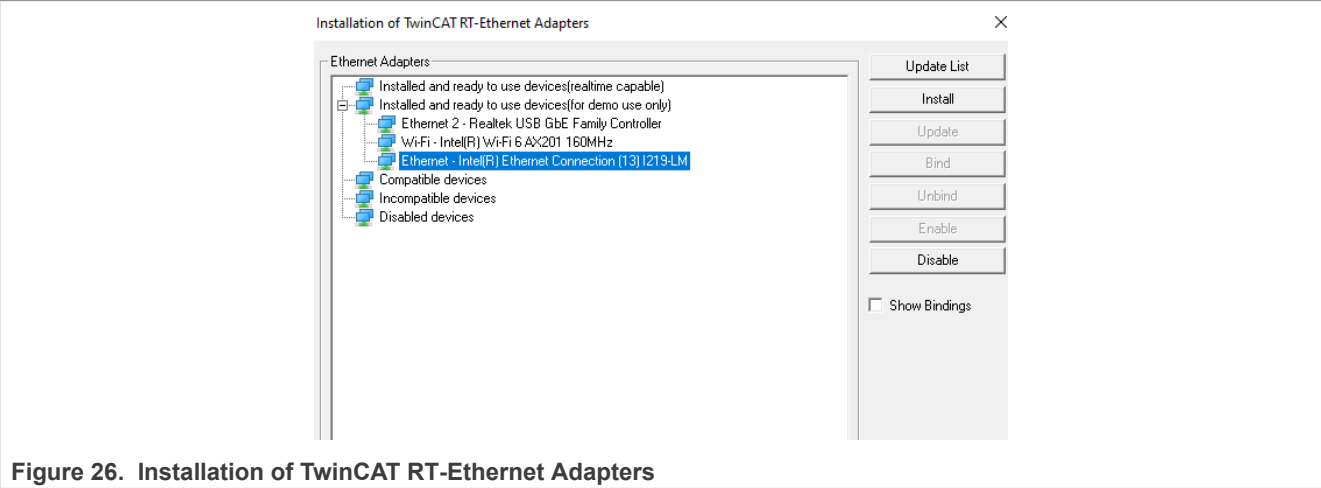

Figure 26. Installation of TwinCAT RT-Ethernet Adapters
- 4. Make sure that the EtherCAT master device driver is installed on your system. This demo uses the PC as master and Intel (13)1219-LM as the PC network controller as shown in Figure 26. If the PC is used as